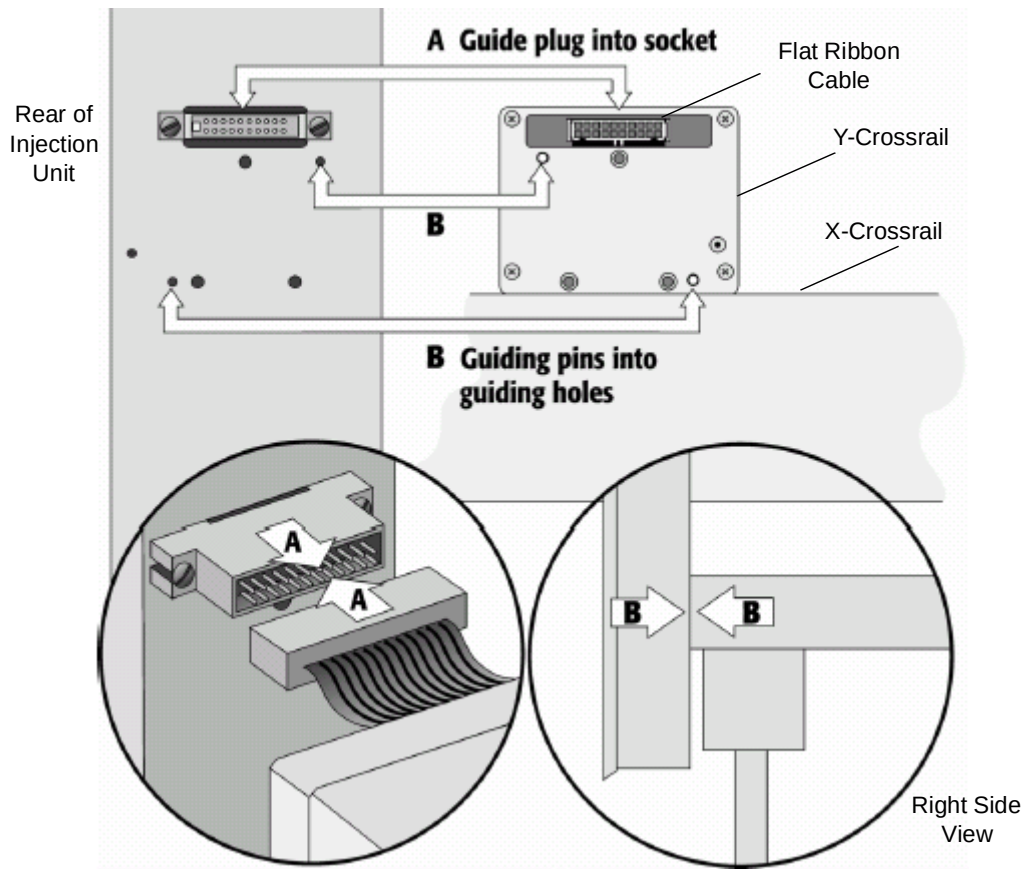

Figure 2-6 Connecting the Flat Ribbon Cable
4. Push the flat ribbon cable (from under the rear part of the Y-crossrail) until it protrudes 1 in. (2.5 cm) from the front end of the Y-crossrail, then connect the cable to the corresponding connector on the injection unit (Figure 2-6).